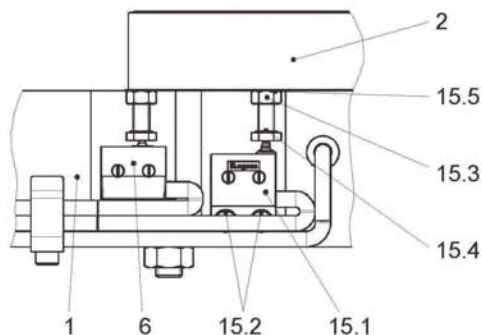

Fig. 10
### Wear Monitoring (15) Fig. 10 (Option, dependent on Type)
Only one microswitch for wear monitoring (15) is required per ROBA®-twinstop®, which is mounted onto the brake as shown in Fig. 10.
### Manufacturer-side Adjustment and Functional Inspection of the Microswitch (15.1), see Fig. 10